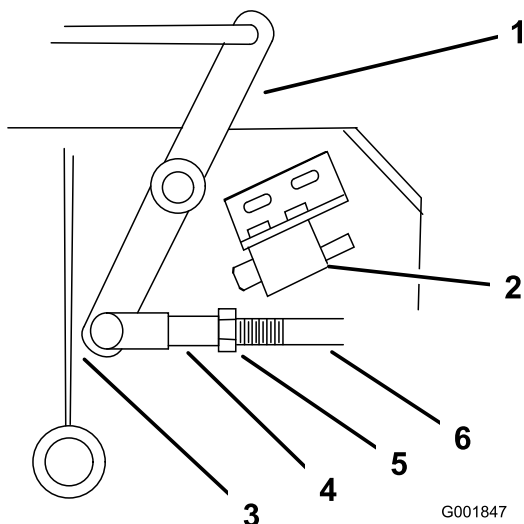

Figure 11
4. Adjust the linkage length to where the lower end of the bellcrank just clears the axle support gusset (Figure 11).
9. Loosen the nut against the yoke (Figure 11).